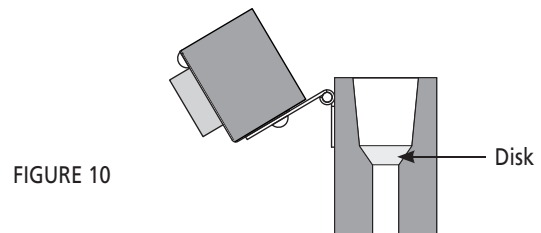

FIGURE 10
4. Insert one steel disk, dished (concave) side up, in the crucible to cover the taphole. **See Figure 10.**